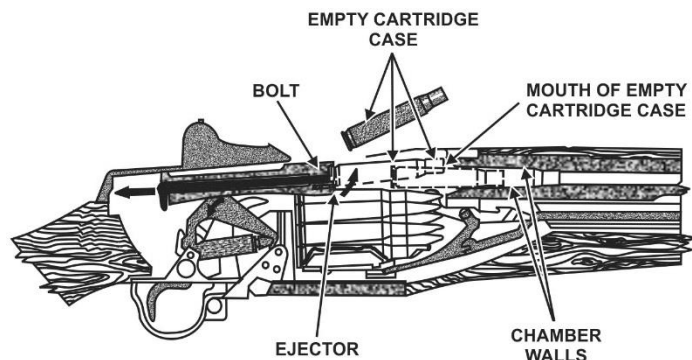

Figure 64. Ejecting an empty cartridge case
- 7) **Ejecting.** Ejecting is throwing the empty case from the rifle. As the bolt moves to the rear, withdrawing the case from the chamber, the round is held in place by the chamber walls. When the mouth of the empty case clears the chamber, it is ejected up and to the right due to the force exerted by the ejector (fig 64).